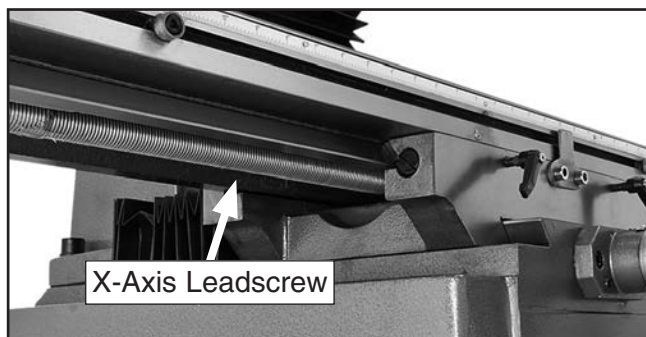

Figure 39. Location of X-axis leadscrew.
6. From beneath table, use mineral spirits and a brush to clean as much of existing grease and debris as possible off of X-axis leadscrew shown in **Figure 39**. Allow leadscrew to dry.